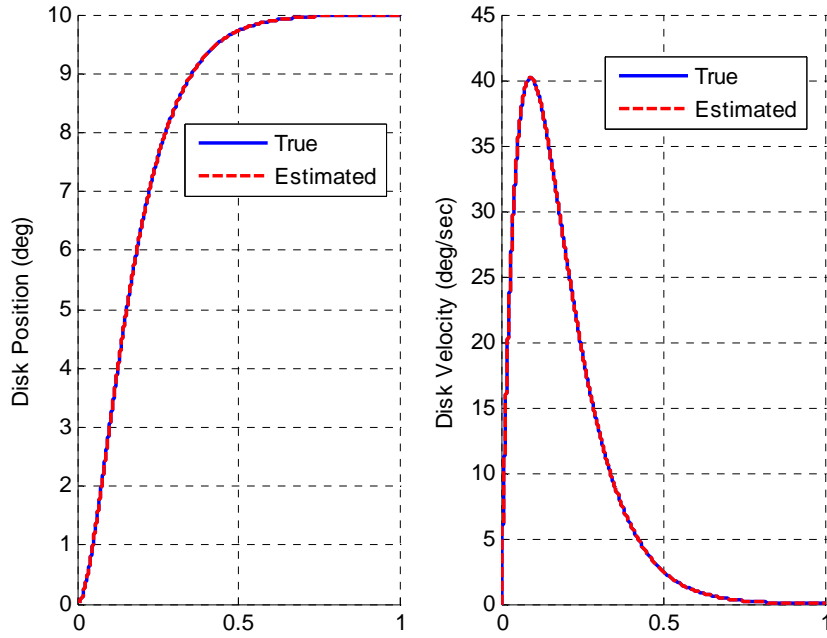
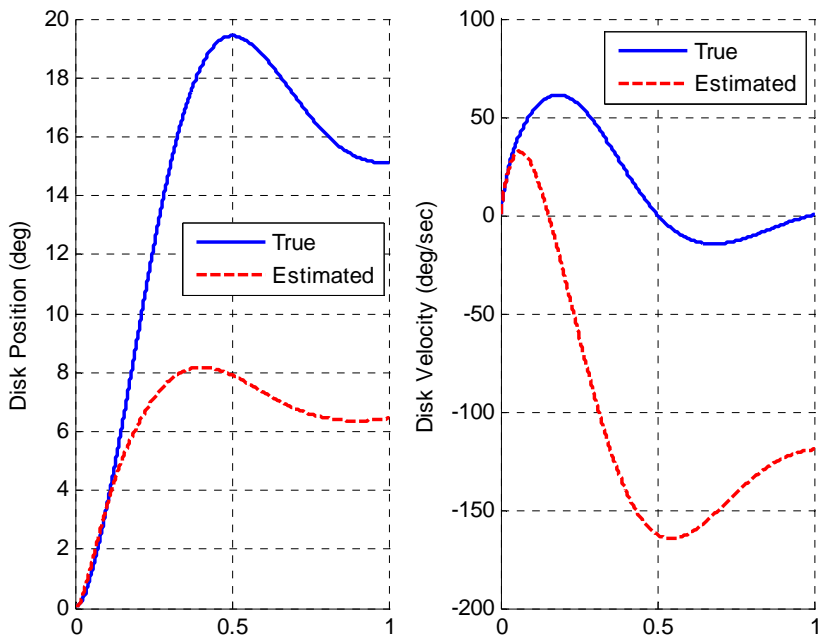

Figure 9. Results for full order observer for 1 dof system (problem 3c).
Figure 10. Results for the 1dof full order observer for a significant model error (problem 3d).
b) Modify **sv1_observer_driver.m** to plot the each of the true and estimated states on the same graph. See Figure 9 (or Figure 10) for an example.
c) For an input of 10 degrees, a final time of 1 second, and **both** the state feedback and observer poles at $p = [-10 \ -12]$, you should get a graph like that in Figure 9.
d) Now we will try and observe what happens when there is a difference between our model and the real system. Modify the observer subsystem in the model (**.mdl**) file, so the A matrix in the observer is called AA. Just before you run the model file, enter the command $AA = A*1.5$. You should get results like those in Figure 10.